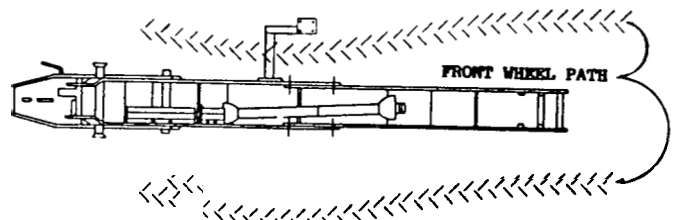

FIGURE 10
- a) Carefully place tractor over subframe assembly running the front right hand tire over the valve support as shown in figure 10. Do not run the tractor wheels over the hydraulic hoses. Place hydraulic hoses over front right hand wheel. Make sure the front section of the subframe is in between the front support brackets and the rear attaching point is under rear hitch plate. The subframe must be parallel to tractor length in the center of the tractor.